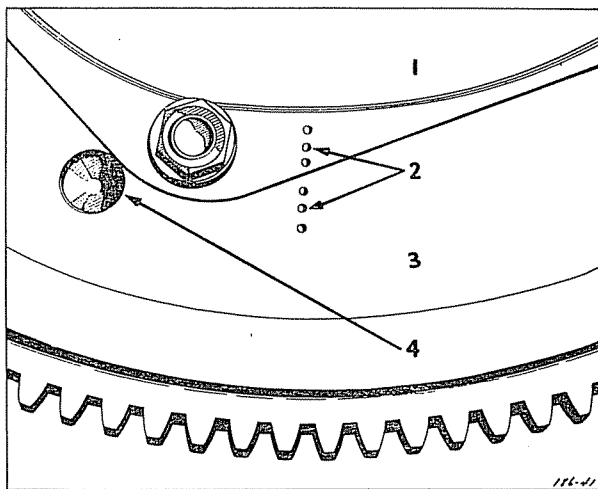

Fig. 3—Punch Marks on Clutch Cover and Flywheel.
- (1) Remove transmission (see transmission section).
- (2) Remove clutch housing pan.
- (3) Remove clutch throw out bearing.
- (4) Mark clutch cover and flywheel (Figure 3). This will ensure the clutch being refitted to the flywheel in its original position to maintain balance.
- (5) Remove floor boards.
- (6) Disconnect the clutch release fork bracket at the clutch housing.
- (7) Remove the clutch release fork flange cap with the pedal and bushing out of the clutch housing far enough to provide clearance for the clutch assembly to pass the cross shaft clutch release fork.